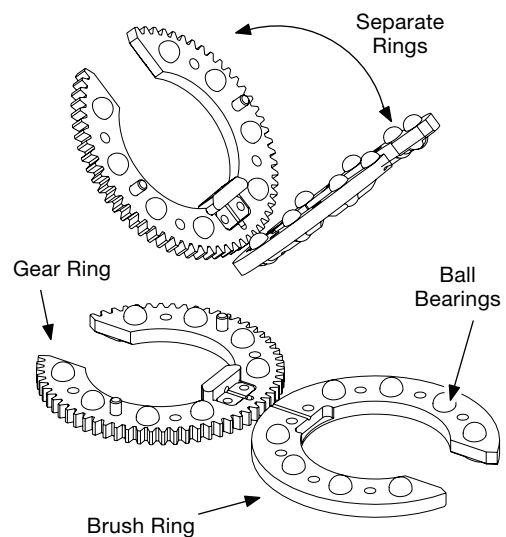

Figure 40 Separating the Gear Ring from the Brush Ring
3. Completely separate the gear ring from the brush ring as shown in Figure 40. Lay the rings flat on the work surface.